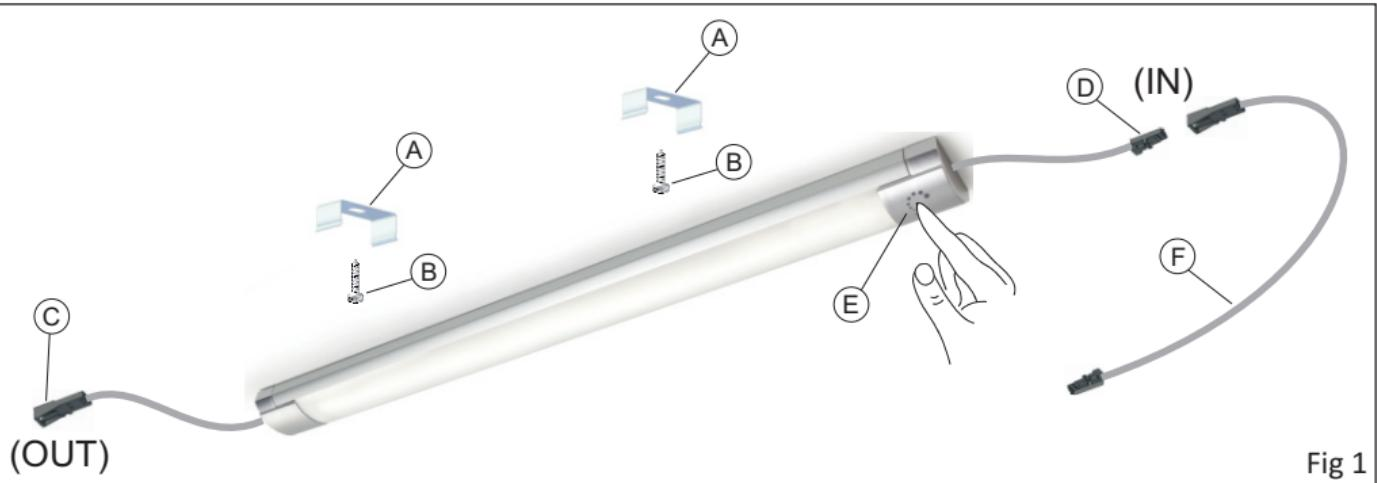

Fig 1
**MOOD** luminaires are recommended for installation under hanging kitchen cabinets or under shelves. The installation can be carried out with the luminaire power supply cable in both an axial or radial position with respect to the installation surface. In the event of a specific requirement these luminaires can nevertheless be installed in other positions as long as it does not compromise the integrity of the wire and/or the connector installed on it. Each **MOOD** luminaire has an intake cable (IN) with a male connector (Ref. D of figure 1), an output
cable (OUT) with a female connector (Ref. C of figure 1) and a power supply cable (Ref. F of figure 1). The **MOOD HE TDM** and **MOOD SHE TDM** configurations have a built-in TouchDimmer switch (ref. E of figure 1).
- Secure the clips (A) to the installation surface using the screws (B) provided in the package as illustrated in figure 1.